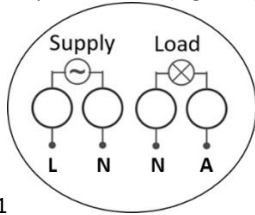

Figure 1
2. Terminate the supply and load cables into terminal block ensuring correct polarity is observed (Figure 1).